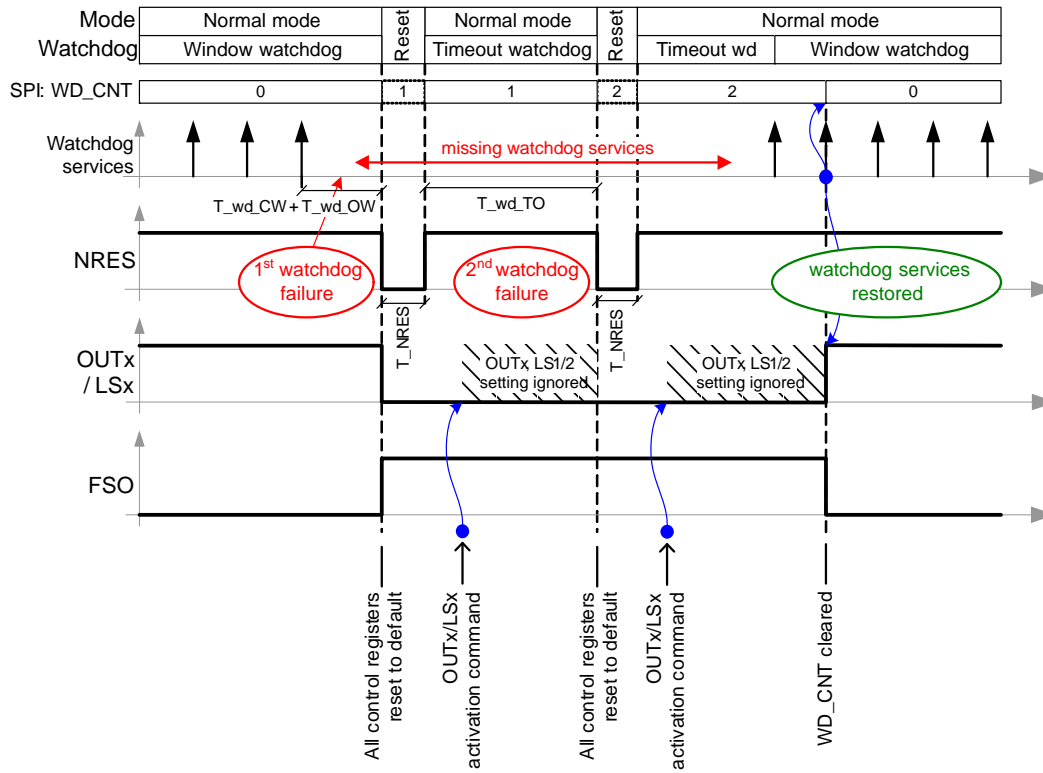
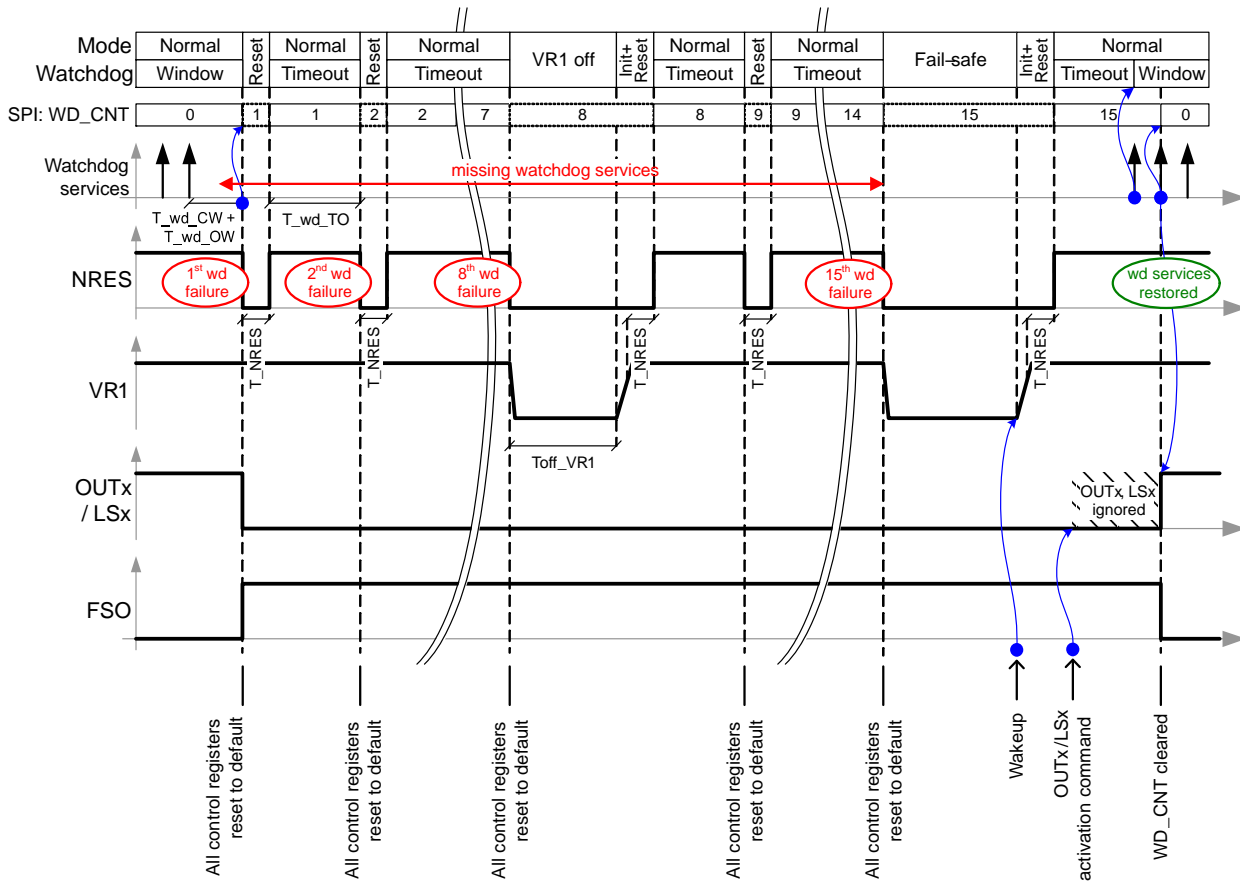

Figure 17. Watchdog Failure – Isolated Events
Figure 18. Watchdog Failure – Multiple Events
- **Failure:** If the watchdog is not triggered correctly (trigger not sent during timeout or open window; or sent during the closed window), reset is generated on pin NRES and the “WD\_TRIG” bit is reset to “0”. After the NRES release, the watchdog always starts in the timeout mode. Watchdog failures are counted and their number can be read from the SPI status registers (bits “WD\_CNT[3:0]”). After eight watchdog failures in sequence, the VR1 regulator is switched off for 200 ms. In case of seven more watchdog failures, VR1 is completely turned off and the device goes into Fail-safe mode until a wake-up occurs (e.g. via the LIN bus). Second successful watchdog trigger (first in window mode) resets the failure counter. Watchdog failure handling is shown in Figure 17 and Figure 18.